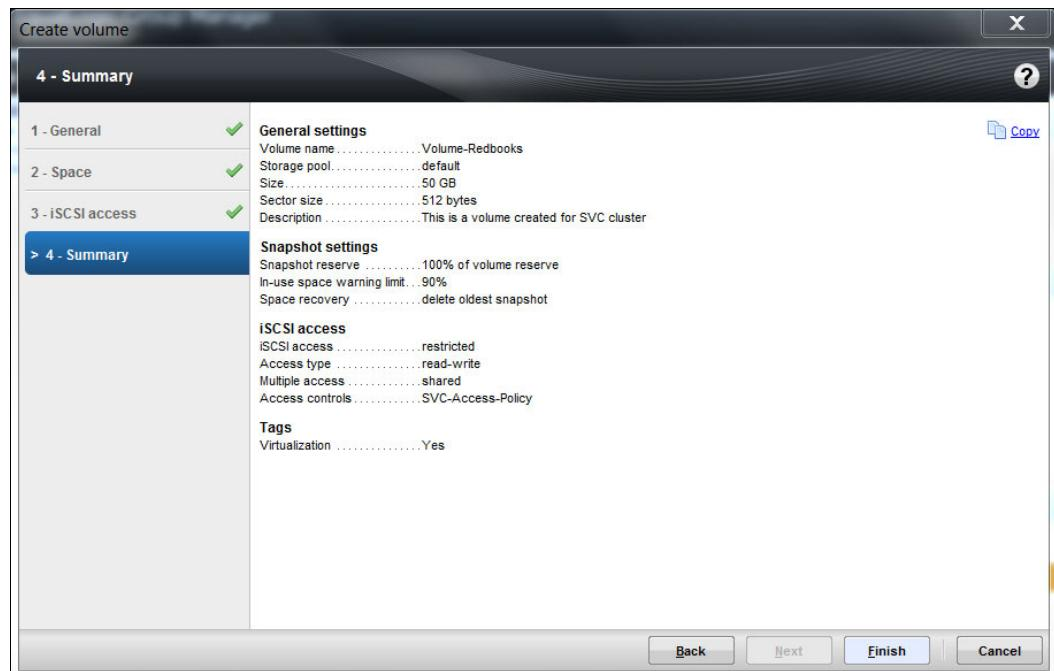

Figure 14-18 Volume summary to validate before creation
- Validate the summary and click **Finish**, as specified in Figure 14-18 to create the volume in the Dell controller.